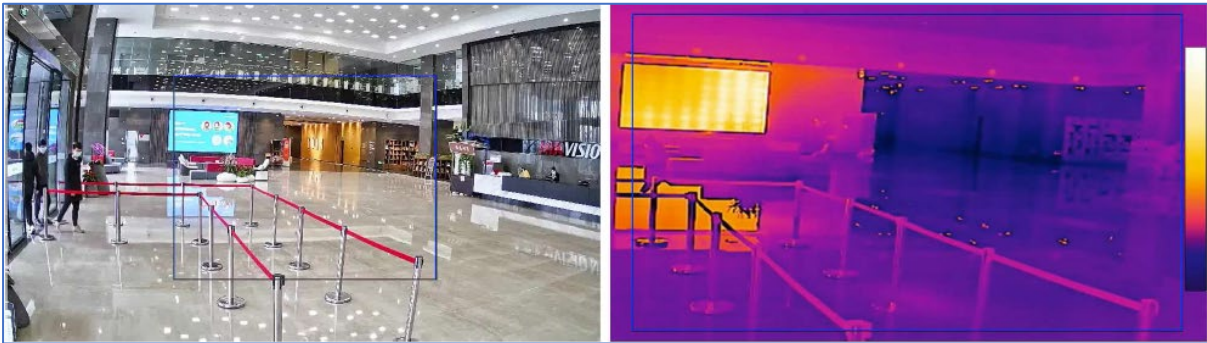

Fig 4. Images from a bi-spectrum camera
5. The thermal image should be supported by a visible colour image (as in Fig 4. below) of the same scene to allow correct identification. This may be within the same camera housing or as a separate device.
<https://www.hikvision.com/uk> - Fig 4. Images from a bi-spectrum camera graphic